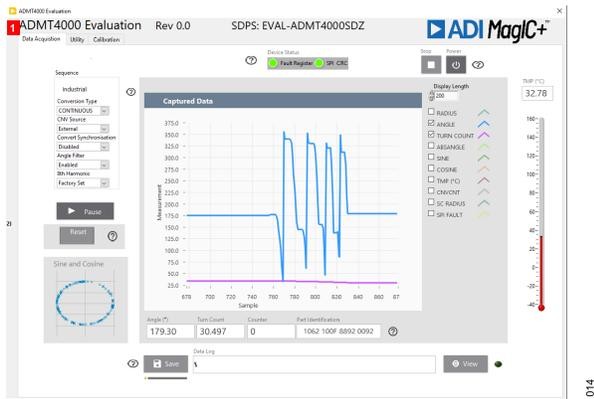

Figure 14. ADMT4000 Evaluation GUI Showing the Connected EVAL-ADMT4000SD1Z Evaluation Kit
- ▶ If the **ADMT4000 Evaluation GUI** is successfully installed and the EVAL-ADMT4000SD1Z is detected, the EVAL-ADMT4000SD1Z evaluation software automatically opens (see Figure 14). The evaluation board name displays on the front panel of the GUI (see Label 1 in Figure 14).